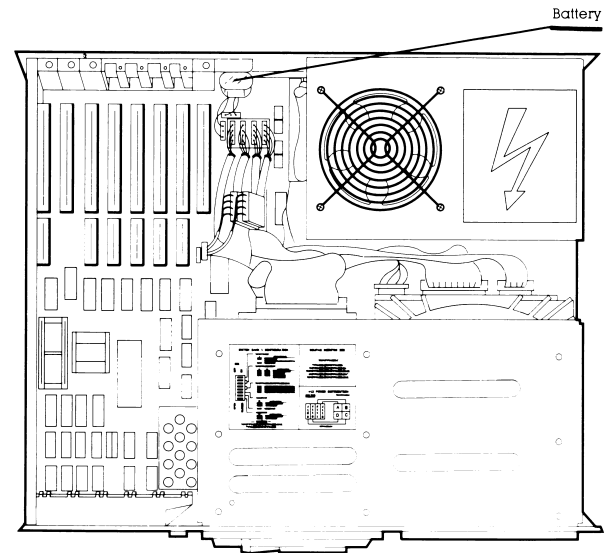

Figure 7-23. Location of the Battery.
2. Locate the battery (Figure 7-23).